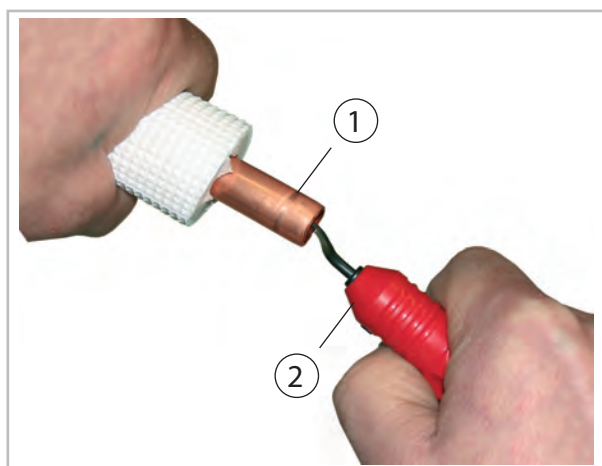
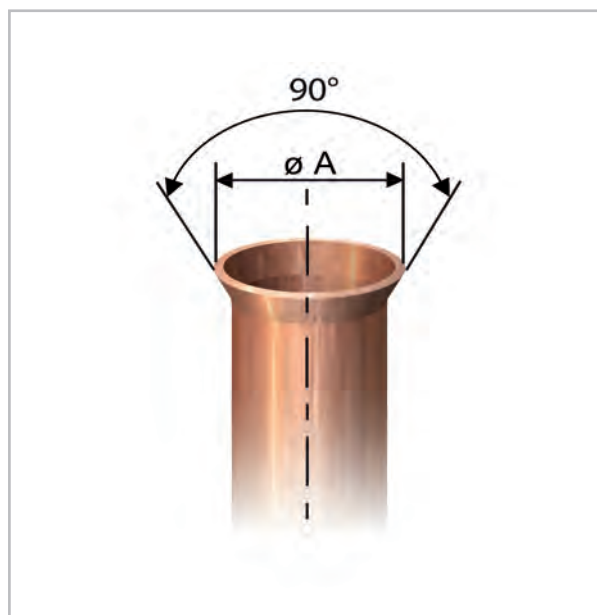

Fig. 52: Deburring the refrigerant piping
Fig. 54: Correct flange shape
- The copper pipes are to be flared to make the connections to the modules. In doing so, check that the flare has the correct shape and suitable union nuts (included in the scope of supply) (Fig. 52 to Fig. 54).